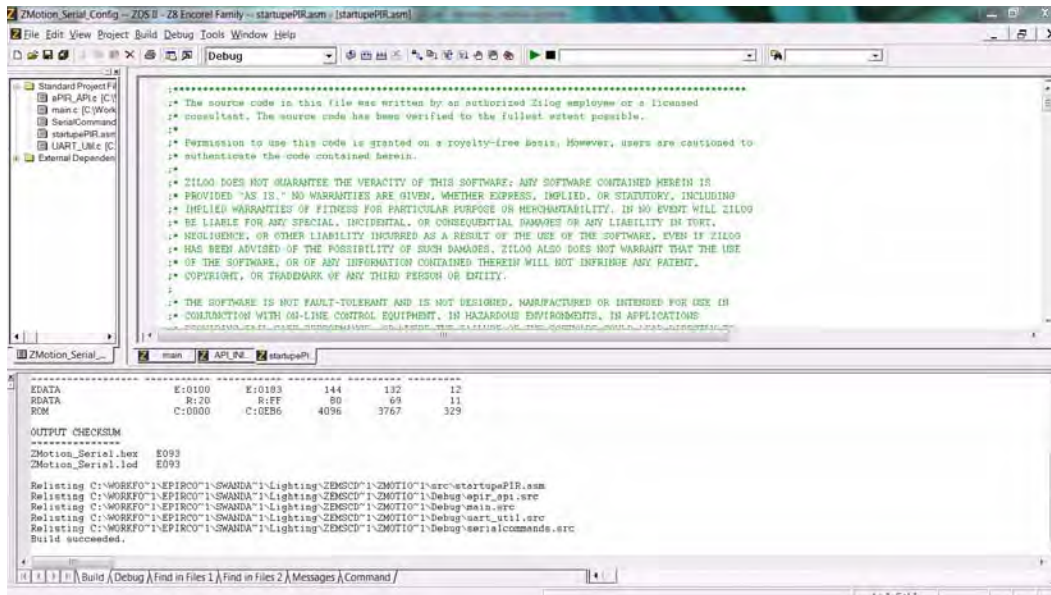
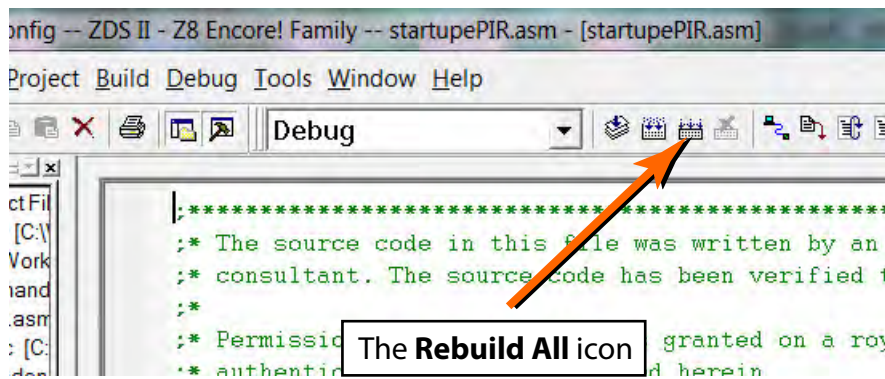

Figure 12. Building the ZMOTION\_Serial\_Config project in ZDSII
Figure 13. The Location of the Rebuild All Icon
3. Click the **Rebuild All** icon to build the project. The build output should not indicate any errors. If you receive errors, try reloading the projects from the original Application CD and ensure that the folders are not set to **Read Only**. See Figure 12 for an example; Figure 13 indicates the location of the **Rebuild All** icon in the ZDSII menu bar.